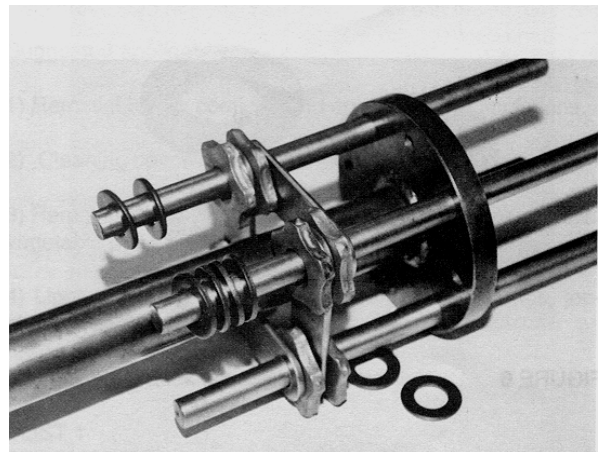

FIGURE 7
2) Arrange the flails in a sequence or pattern that minimizes "blind" or "open" spots created by the additional support plates of the two section flail drum. Always insert at least one spacer washer between two (2) consecutive flails. The exception to this rule is a configuration where its design does not require the use of spacer washers. A flail drum set up with only star, beam or pentagonal flails and no spacer washers will not penetrate the work surface at satisfactory rates. Typical configurations minimize the hammering or impact action of the flails. However, this can also be useful when removing traffic lines.
3) Allow the flails to be arranged on the one section flail drum in configurations of specific widths for many job applications. An example would be the use of pentagonal flails to groove a concrete floor. The spacer washers are used to position the pentagonal flails at the desired width. FIGURE 7.